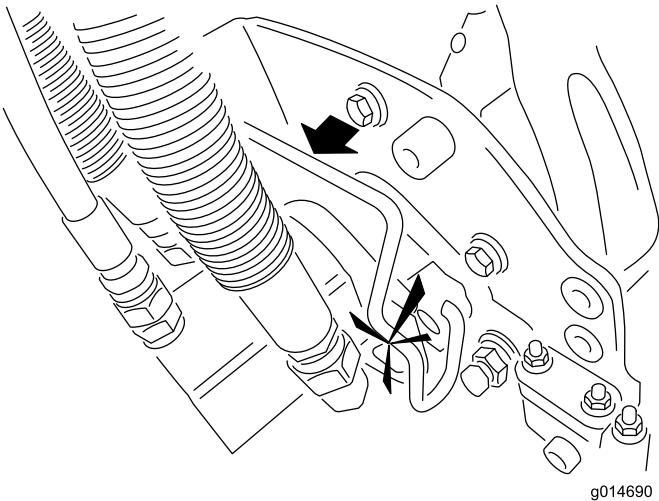

Figure 14
7. Coat the spline shaft of the cutting unit motor with clean grease (Figure 14).
8. Insert the motor into the left side of the cutting unit (as viewed from the operator’s position) and pull the motor retaining bar on the cutting unit toward the motor until you hear an audible “click” from both sides of the motor (Figure 14).